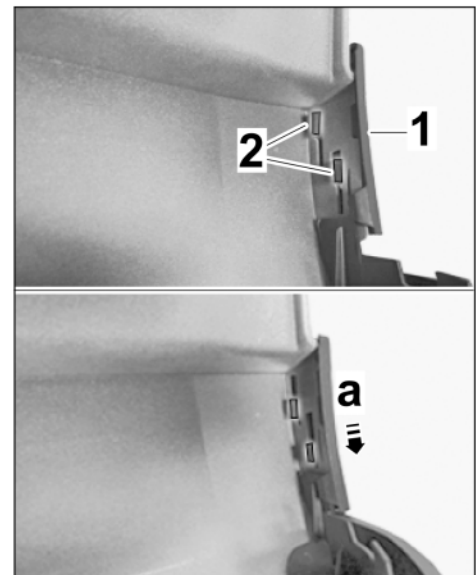

Figure 42
- 7.3.3 Install retaining lugs on the trim at the wheel opening into the side skirt and push them down (\Rightarrow *Figure 42 -a-*).